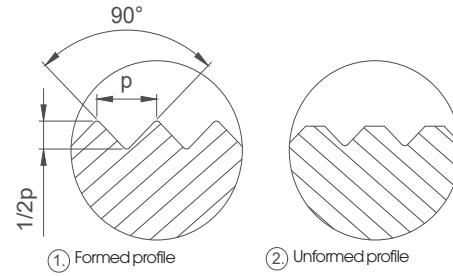

Fig. 8: Different profile pattern
The profile depth is set by moving in the X direction and corresponds to approximately the half pitch p (with 90° flank angle), (Fig. 8). After reaching the depth, the dwell time of the tool should be between 3 and 10 revolutions of the workpiece. Then disengage the tool while the spindle is rotating. The profile is completely formed when the tooth tips are closed (Fig. 8, ref. 1). A new setting takes place when the profile is not completely formed (Fig. 8, ref. 2). Running into the profile again is possible, because the knurling wheel catches in the existing profile.